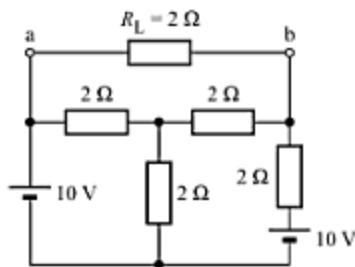

Fig. 4.44
- Find the current in R_L in the circuit of Fig. 4.44 by using Thevenin's theorem, and then verify your results by using loop current method.